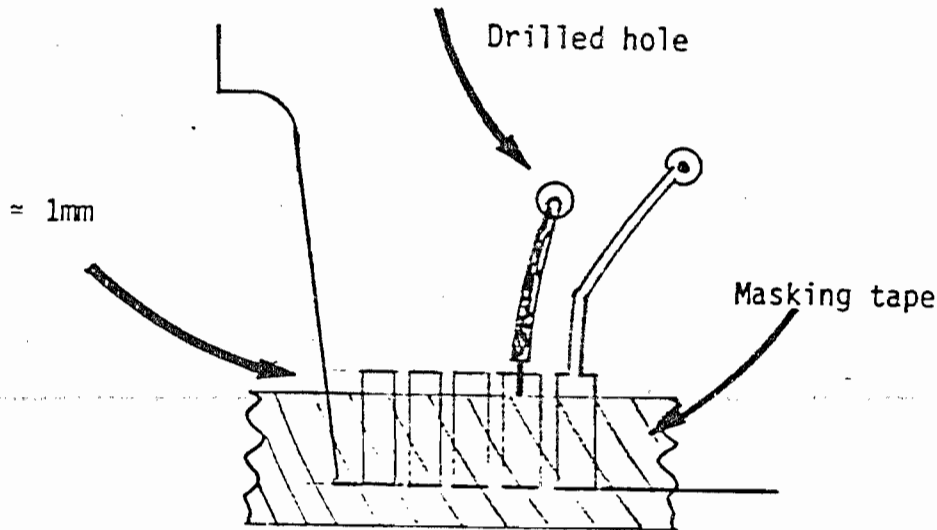

Fig. 6
- 7) Mask the pin contact area to within 1mm of the inboard edges to protect against solder flowing onto the contact area (Fig. 6). Cut the added wire to length and solder it to the exposed 1mm section of Pin B4. Use a very small-tipped iron with minimum heat and minimum solder.